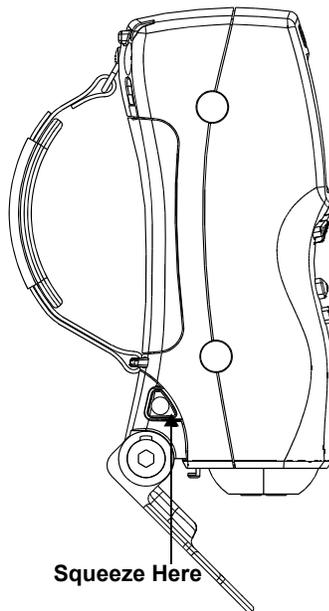

Figure 1-9. Removing the Targeting Foot
1. Unlock the Targeting Foot. Slide the lock to the far left. The Targeting Foot will open. See Figure 1-9.